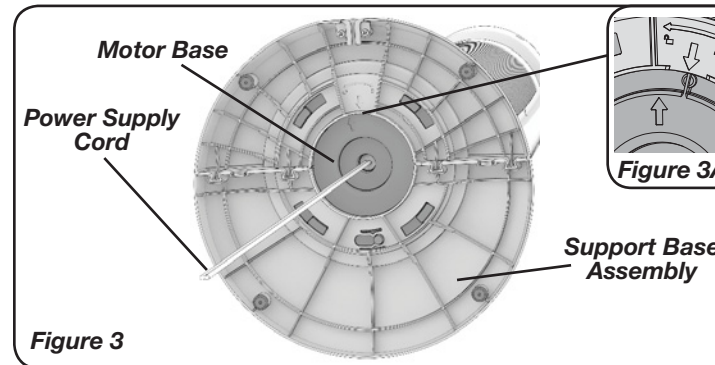

Figure 3
4. To secure the Support Base Assembly to the Motor Base, hold the Motor Base in place while turning the Support Base Assembly clockwise (towards to the locked symbol) until it no longer turns and locks in place. (Figure 3 & Figure 3A)